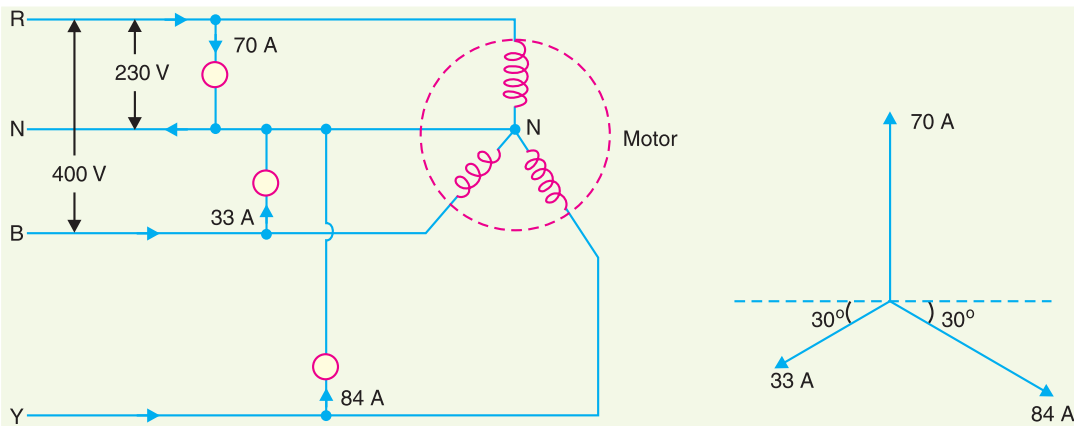

Fig. 14.15
**Solution.** Fig. 14.15 shows the lamp load and motor load on 400 V/230 V, 3-phase, 4-wire supply.